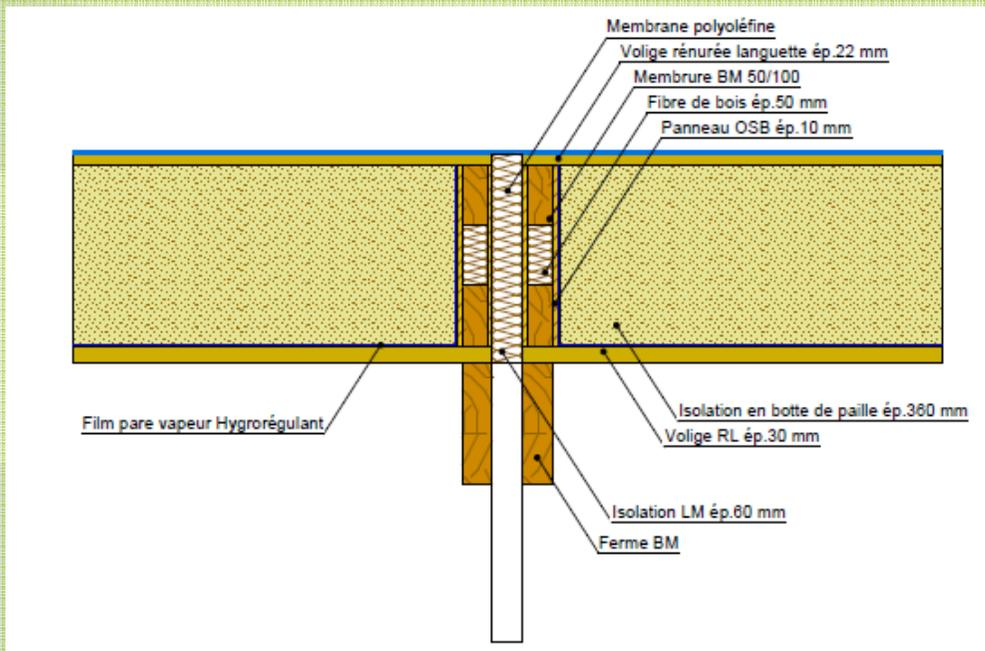

Figure 1
**Horizontal walls (roofs, figure 1)**